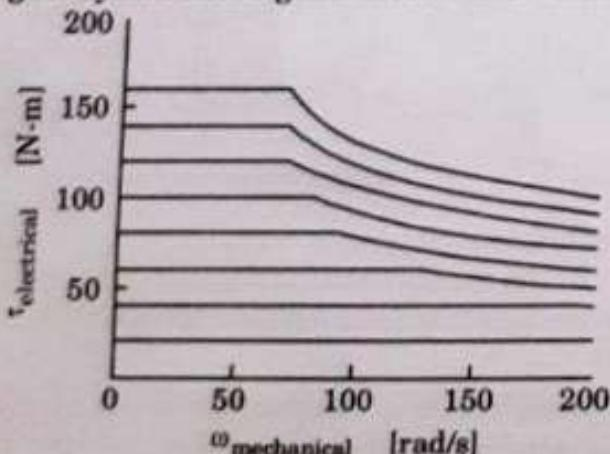

Fig. 4.1.3.
- C. Characteristics :** The speed-torque characteristics of permanent magnet synchronous generator as shown in Fig. 4.1.3.